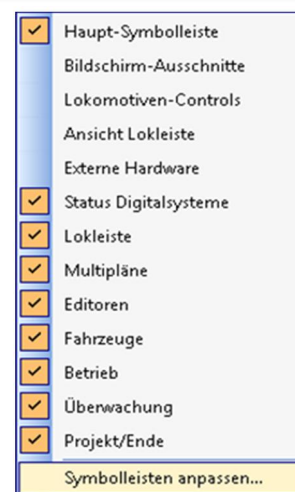

Fig. 14.35 Toolbar menu
If you do not need some of the toolbars available in **Win-Digipet** you can hide them within the application's window. Click within the menu bar or toolbar with the right mouse button to open the toolbar menu (Fig. 14.35).
- Click within the menu bar or toolbar with the right mouse button to open the toolbar menu (Fig. 14.35).